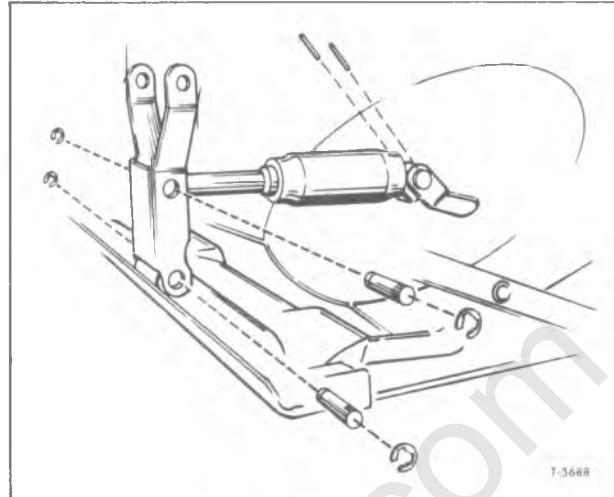

Figure 13—Shock Absorber
1. With shock absorber (22) in proper position, replace hinge shaft (19) at rear of shock. (Also refer to fig. 13.)
2. Replace two roll pins (20) in hinge shaft, locking roll pin on right-hand side in nibs in bent-up ear.
3. Replace hinge shaft (18) at front of shock absorber, driving shaft from right-hand to left-